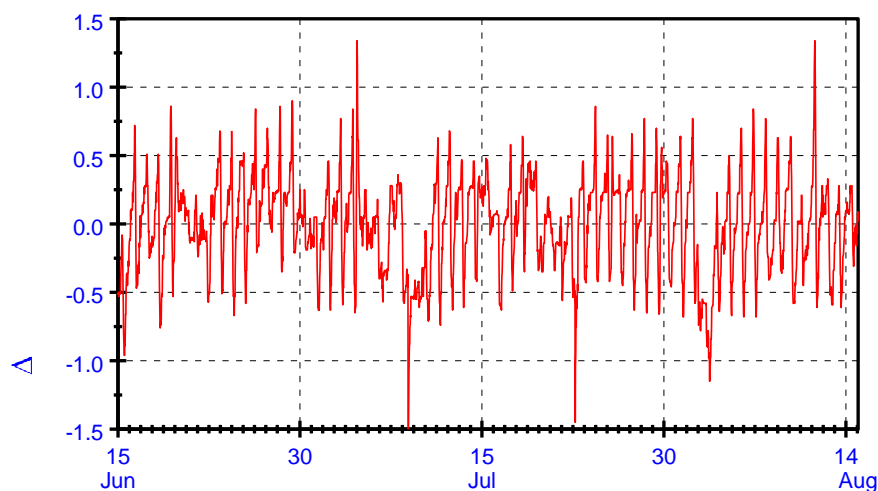

Fig.1 Vertical temperature gradients of 40 years old spruce tree, measured with a Granier sensor without heating.
- 2). This technique also ignores the natural temperature gradients of the sapwood, which range between +/- 1.5 °C and can cause considerable error in the measuring results (fig. 1).